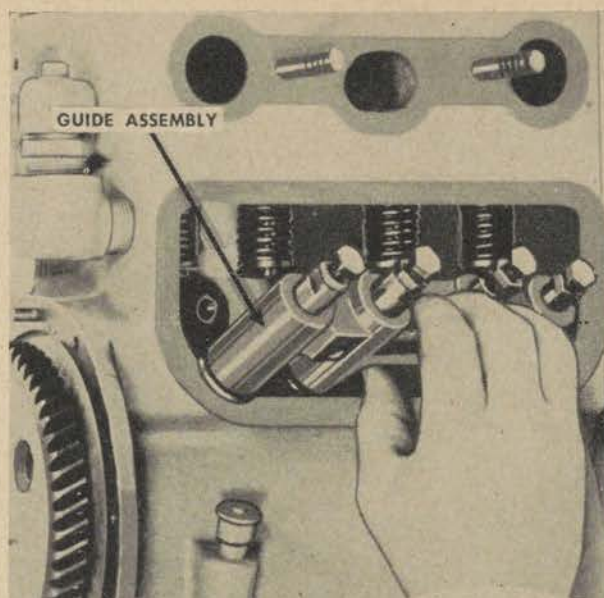

Figure 207. Removing valve guide and lifters.
- (d) Clearance between a new valve stem and a new bushing is 0.002 to 0.004 inch, with a worn limit of 0.005 inch for inlet and 0.007 inch for exhaust valves. If the valve stem bushings are worn, replace them with new bushings. After taking out the capscrews and locks that hold the valve lifter and guide assembly in place, remove it. (See fig. 207.) Using a drift shaped to fit the bore of the bushing drive each bushing down out of the cylinder block.